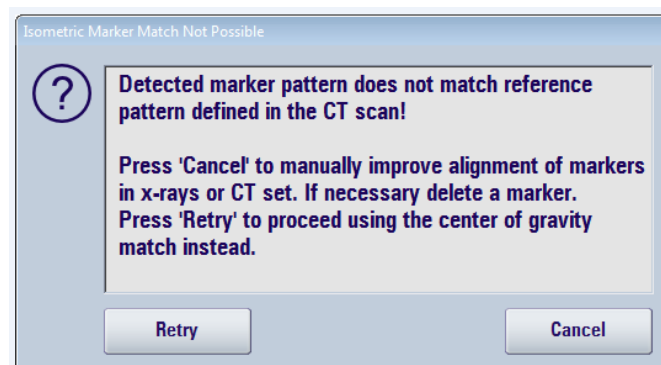

Figure 1: Message box indicating that ExacTrac Vero suggests switching to a “center of gravity match”
- The operator accepts this proposal by pressing the “Retry” button (see Figure 1).